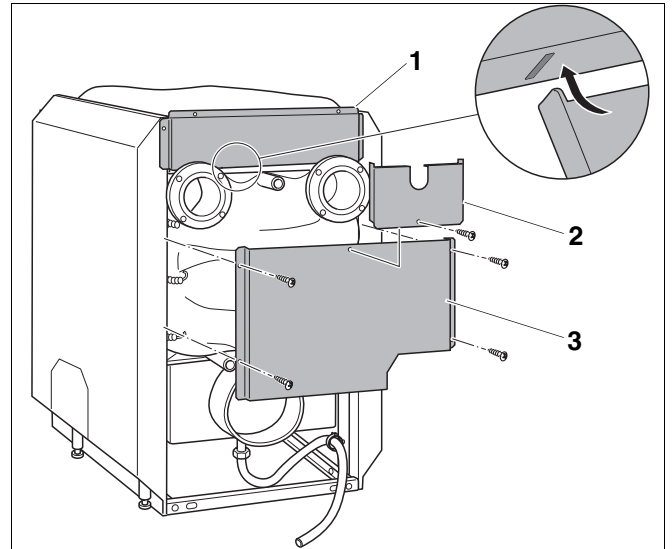

Fig. 13 Fitting the rear panel
- Lay the upper rear panel (Fig. 13, **Item 1**) against the folded edges of the side panels, and using one self-tapping screw on each side, left and right, screw into the folded edge of the side panel and into the beam.
- Lay the lower rear panel (Fig. 13, **Item 3**) against the folded edges of the side panel, and screw in place using two self-tapping screws on each side, left and right.
- Slot both tabs on the centre rear panel (Fig. 13, **Item 2**) upwards into the slots on the upper rear panel, and screw into the lower rear panel using one self-tapping screw.